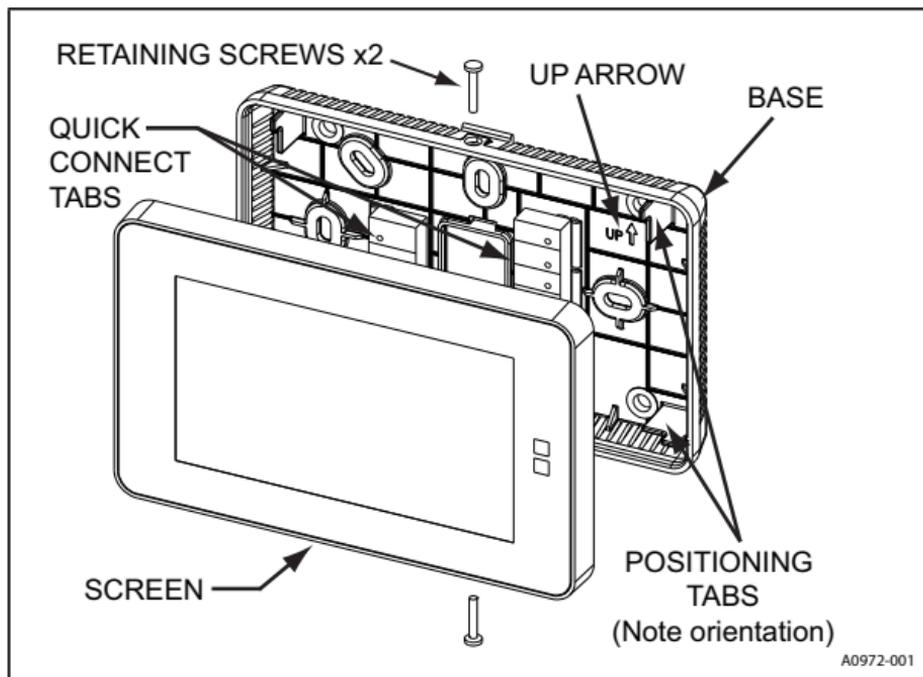

FIGURE 2: Thermostat Installation and Components
11. Ensure the Base is positioned with the UP arrow in the proper direction, see Figure 2.